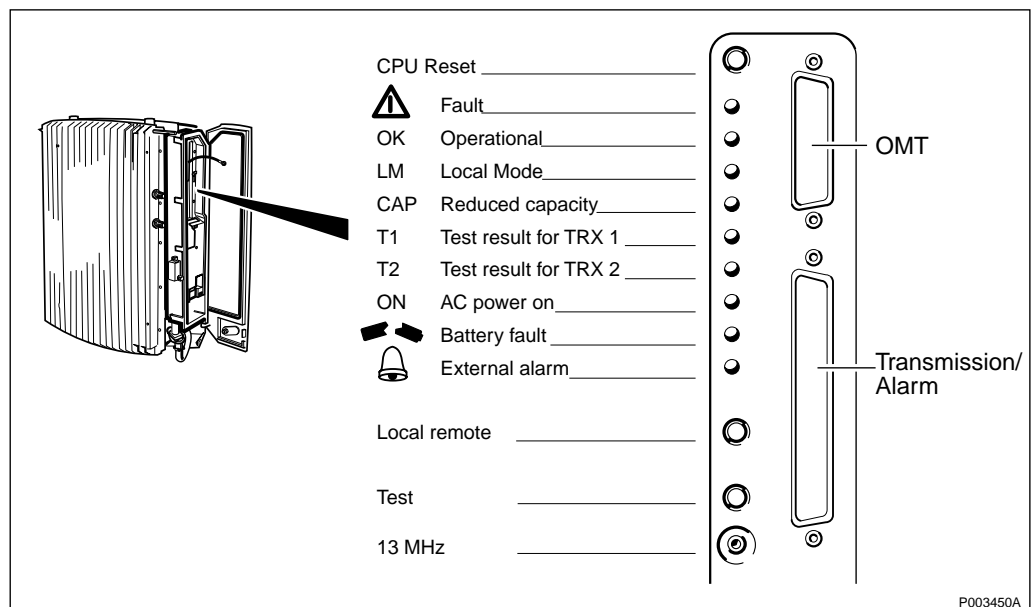

Figure 267 Distribution Panel
The Local/Remote button can change a RBS mode to local or remote control. The Local/Remote button is located on the Distribution Panel (DP), see Figure 267 on page 276. An RBS in Local Mode cannot communicate with the BSC via the PCM-line and is therefore isolated from the BSC.